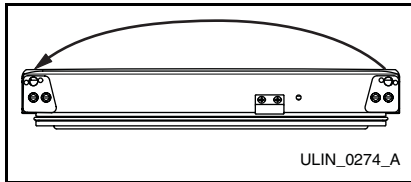

Figure 23
8. With bottom of door facing up, remove pivot plate (two screws), flip over, and remount on opposite side of door (**Figure 23**). **Be sure slanted side of plate faces center.**